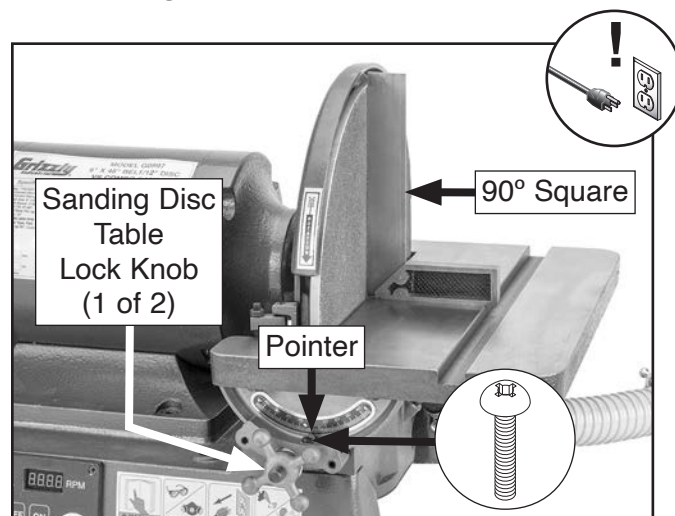

Figure 52. Squaring table to sanding disc.
2. Place 90° square on sanding disc table, loosen (2) sanding disc table lock knobs, and adjust table until it is square to sanding disc (see **Figure 52**).
3. Loosen pointer screw (see **Figure 52** on **Page 39**), adjust pointer to point to 0° when table is square to disc, then tighten screw to secure.